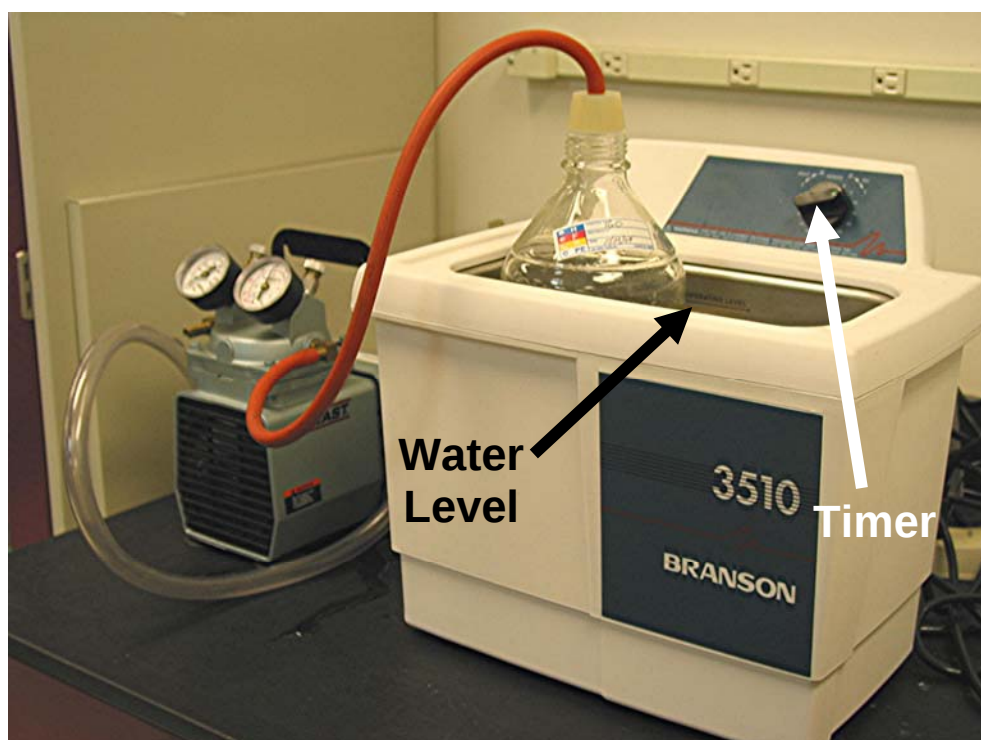

Figure 2-19: Water level and timer location
- c) Confirm water level for the ultrasonic bath is at proper operating level, about 1" from the top of the ultrasonic bath – Figure 2-19. Add more water if necessary. Change the water once a week.
- d) Turn the timer on the ultrasonic bath to 10 minutes – Figure 2-19.